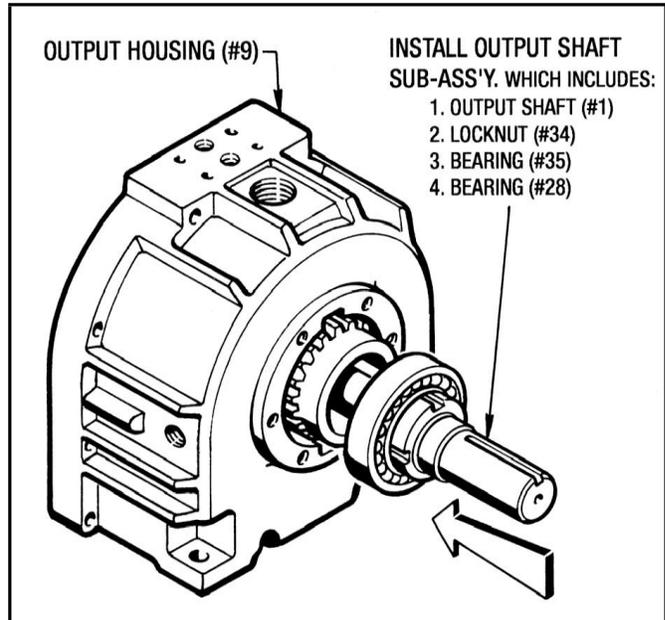

Figure 9.4 - Installing Output Shaft
4. Insert the Output Shaft with the (2) Bearings on it into the Output Housing (#9) until Bearing (#35) seats into the bearing bore. (See Figure 9.4)